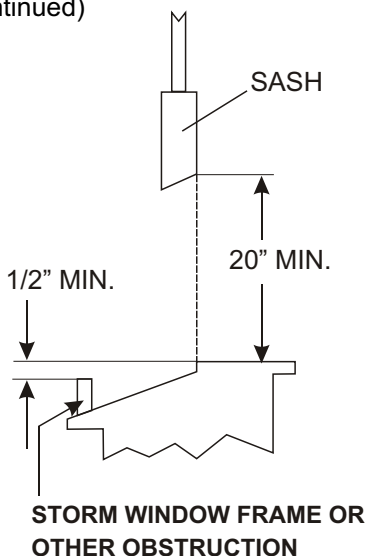

Fig. 1
- 1. Check window opening size** - the mounting parts furnished with this air conditioner are made to install in a wooden sill double-hung window. The standard parts are for a window opening of 32"(812 mm) minimum to 43"(1092 mm) maximum width. Open sash to a minimum of 20" (508 mm). (FIG. 1)